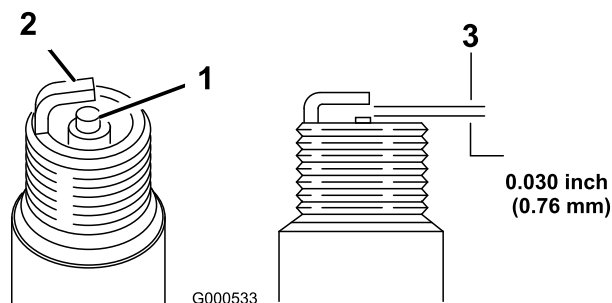

Figure 34
11. Set the gap on the plug to 0.030 inch (0.76 mm) (Figure 34).